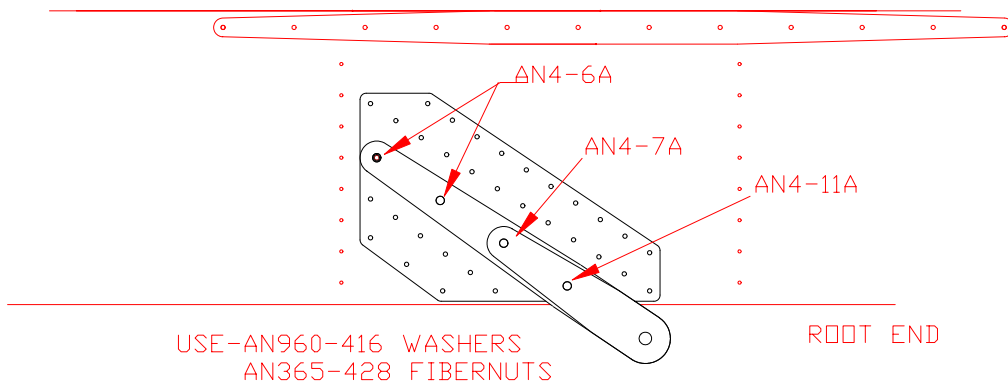

Figure 8.25.1
- 2) Chromate and bolt the Wing Strut Fittings (W-616 and W-617) to the Main Spar as in Figure 8.25.1.